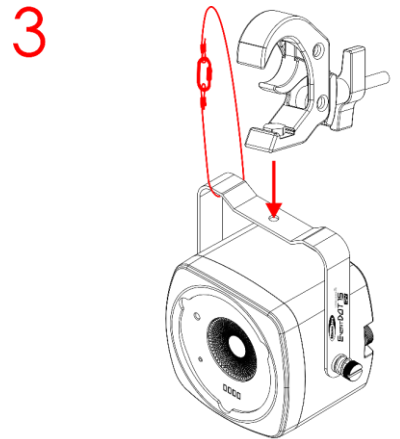

Fig. 11
- 01) Remove the **mounting support (04)** from the **mounting bracket (05)**.
- 02) Use a clamp to attach the device to the supporting structure, as shown in Fig. 11.
- 03) Secure the device with a secondary suspension, for example a safety cable. Make sure that the secondary suspension can hold 10 times the weight of the device. Put the safety cable around the **mounting bracket (05)**.
- 04) Adjust the angle of the device with the 2 **adjustment screws (06)**. Make sure that the device cannot move freely after the **adjustment screws (06)** are tightened.